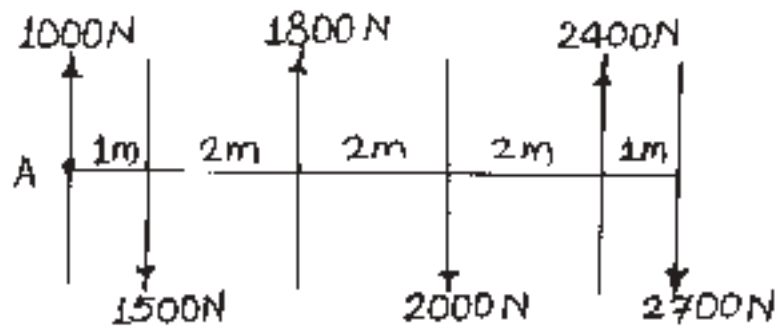

Fig. No. 7
- c) Find the resultant in magnitude and locate it on the sketch with respect to point 'A' for the force system shown in Fig. No. 7.